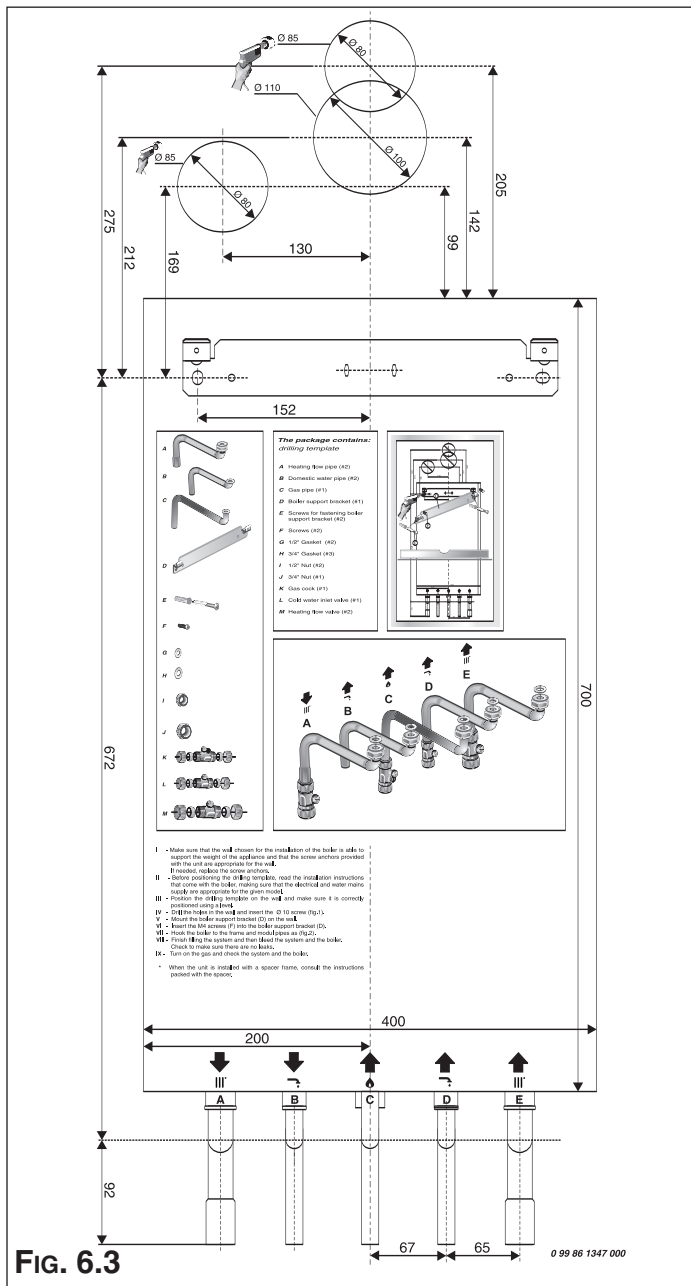

FIG. 6.3
2.5.2. Position the appliance on the hanging bracket and connect the isolating valves supplied in the connection kit as shown on the wall template (see also Sections 6.7 Gas Connections, 6.8 Water Connections & Fig. 6.3).